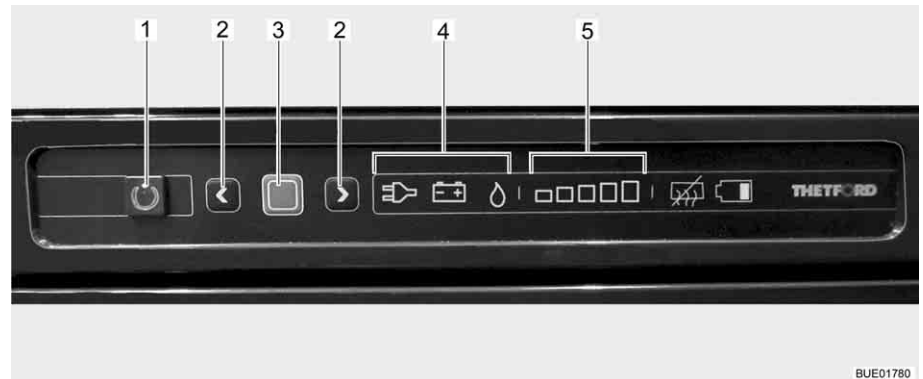

Fig. 178 Operating controls for the refrigerator
The current operating mode is indicated by an illuminated symbol (Fig. 178,4) on the operating unit.
When turned on the refrigerator automatically selects the thermostat position selected last. This position can be adjusted manually by using the arrow keys (Fig. 178,2). The illuminated bars of the cooling level indicator (Fig. 178,5) show the selected thermostat position. The refrigerating temperature for the three types of energy is set with the arrow keys. It takes a few hours till the refrigerator reaches its normal operating temperature. When changing over the operating mode the thermostat setting will be maintained. The refrigerating temperature is retained regardless of the type of energy being used.
- Press and hold the On/Off button (Fig. 178,1) for 1 second. Button (Fig. 178,1) lights up green. To save energy, after approximately 10 seconds the display is dimmed.
- Press confirmation button (Fig. 178,3). The current setting of the operating is displayed.
- If the operating mode gas is not set: To change the setting, press and hold the confirmation button (Fig. 178,3) for approximately 2 seconds.
- Using the arrow keys (Fig. 178,2) select the operating mode gas. Gas supply is open. Ignition will take place automatically. A ticking sound can be heard until ignition has been completed successfully.
- Press and hold the confirmation button (Fig. 178,3) for about 2 seconds.
- Press confirmation button (Fig. 178,3) again. The current cooling level is shown by the illuminated bars (Fig. 178,5).
- To change the setting, press the arrow keys (Fig. 178,2) until the desired setting is displayed.
- Press and hold the On/Off button (Fig. 178,1) for about 2 seconds. All lights go out. Refrigerator is switched off.
- If 230 V operating mode is not set: To change the setting, press and hold the confirmation button (Fig. 178,3) for approximately 2 seconds.
- Using the arrow keys (Fig. 178,2) select the 230 V operating mode.
- If the 12 V operating mode is not set: To change the setting, press and hold the confirmation button (Fig. 178,3) for approximately 2 seconds.
- Using the arrow keys (Fig. 178,2) select the 12 V operating mode.